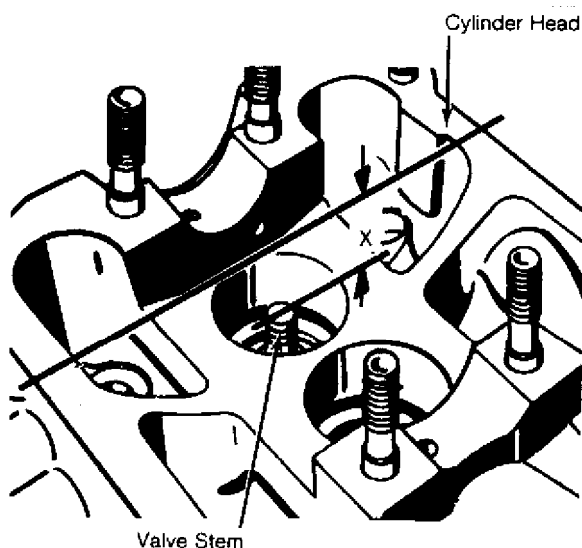

Fig. 5: Measuring Refacing Limit Of Valve Seats
2) One of 2 limits for cutting valve seats (dimension "y") is determined by measured distance "X" between stem end of closed stem and upper face of cylinder head (where camshaft cover gasket rests). See Fig. 5. Insert valve into guide and hold tightly against seat.